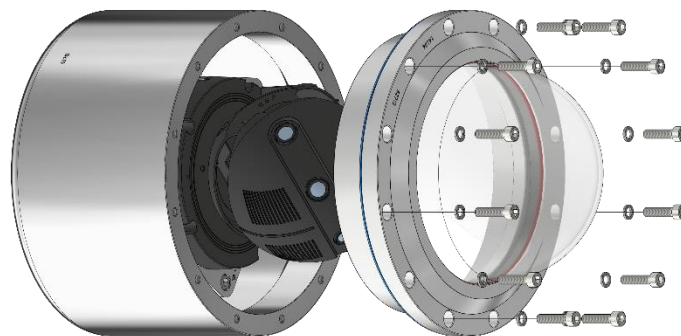

Fig. 6-1 Opening the ExCam T08-VA4.1K.PS1
- Carefully pull out the dome flange strictly vertically/perpendicularly (see Figure 6-1). There is a risk of side tilt! Because of negative pressure it may be difficult to remove.